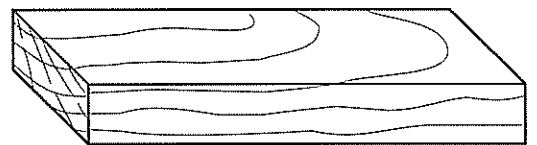
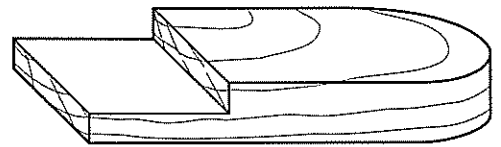

Figure 1
Figure 2
17. Figure 1 shows a piece of softwood which is to be shaped as shown in Figure 2.